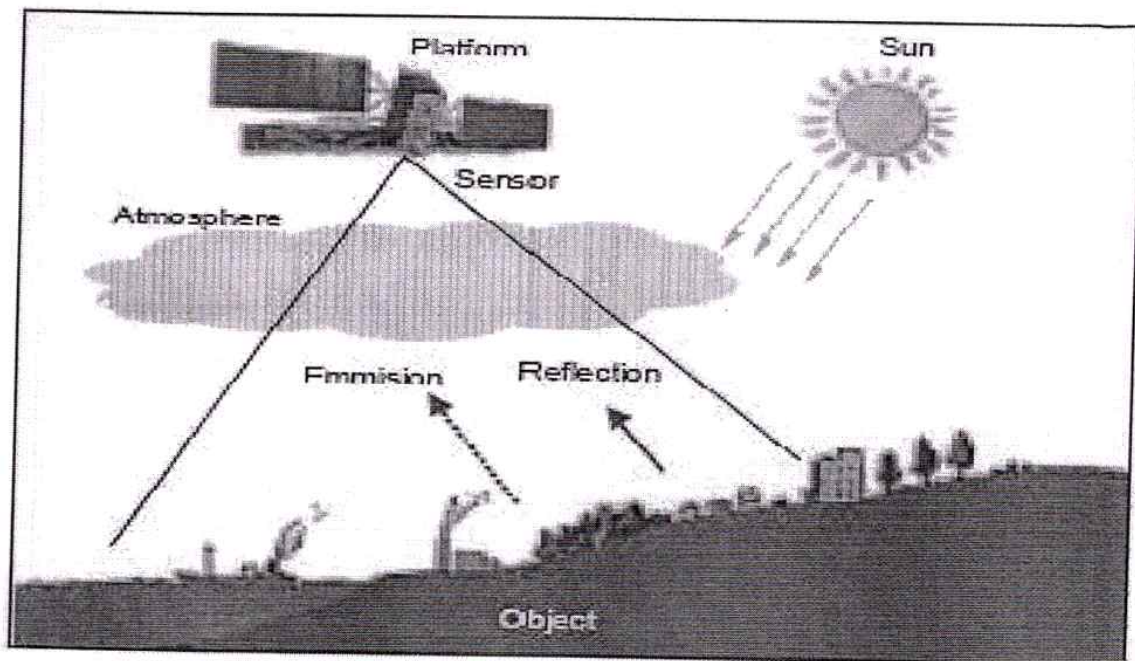

Fig. 1. Schematic representation of remote sensing technique
- 2] <http://www.ilmb.gov.bc.ca/risc/pubs/aquatic/aerialvideo/assets/figure1.gif>